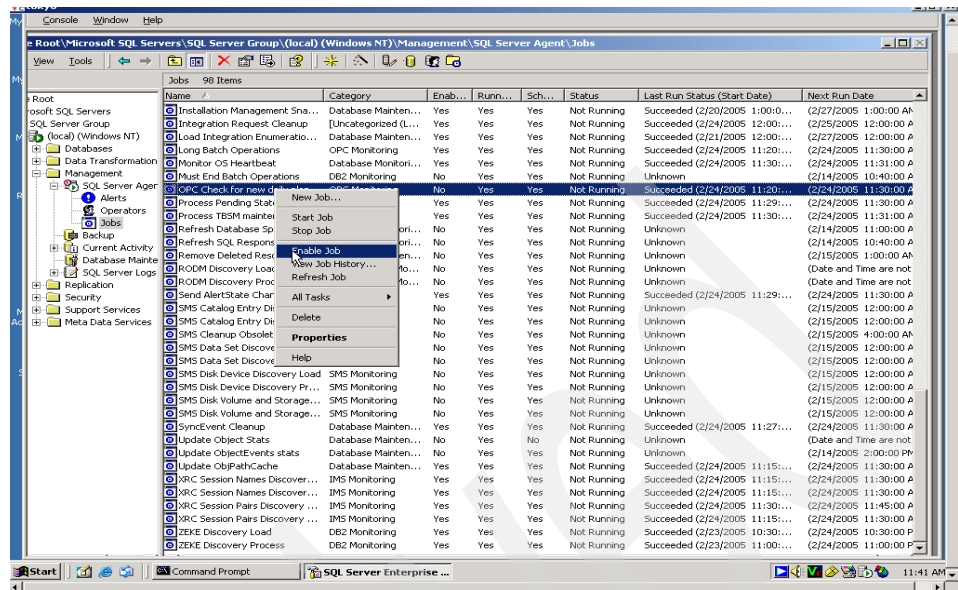

Figure 5-9 Enabling the “OPC Check for new daily plan” job
3. Enable the OPC Check for new daily plan job as shown in Figure 5-9 on page 202.